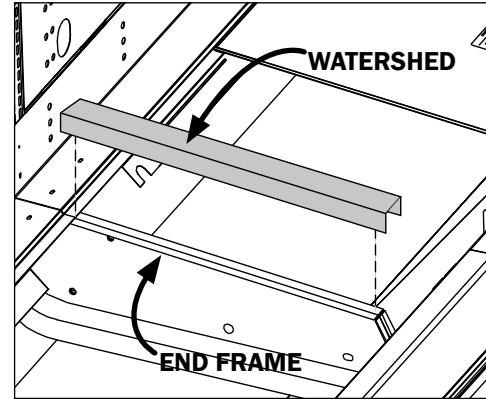

Fig. 3 Sealing the pipe chase
6. Apply case-to-case watershed (supplied) over the end frame seam (Fig. 3). The watershed prevents water from settling in the case joint.